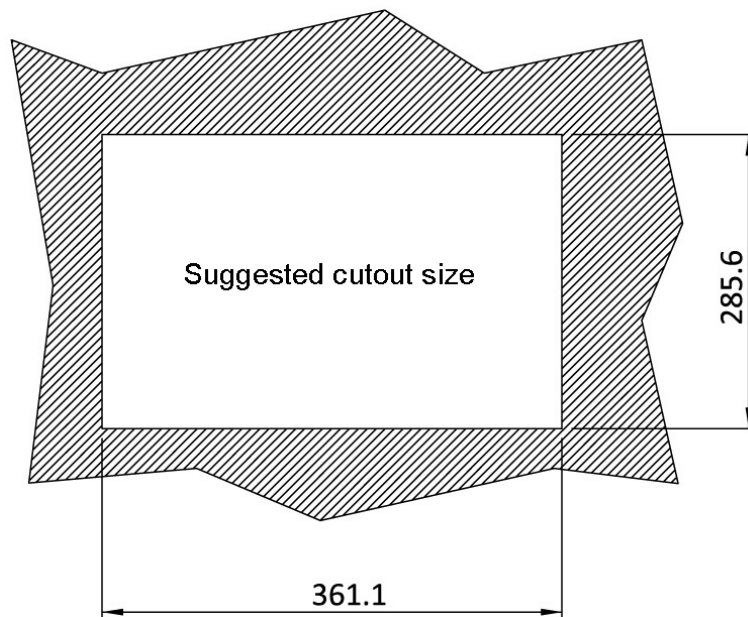

Figure 3-30: PPC-F15A-H81 Panel Cutout Dimensions
Step 15: Cut out a section of the panel that corresponds to the rear panel dimensions of the PPC-FxxA-H81. The recommended cutout sizes are shown below (Figure 3-30, Figure 3-31, Figure 3-32 and Figure 3-33).